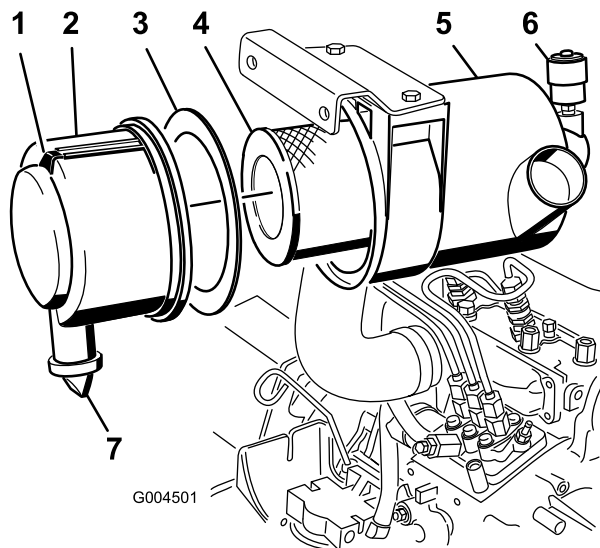

Figure 43
- Service the air cleaner filter when the air cleaner indicator (Figure 43) shows red or every 400 hours (more frequently in extremely dusty or dirty conditions). Do not over service the air filter.
1. Pull the latch outward and rotate the air cleaner cover counter-clockwise (Figure 43).
2. Remove the cover from the air cleaner body (Figure 43).
4. Remove and replace the primary filter (Figure 43).
6. Ensure that the foam gasket is in place in the cover and that it is not torn or damaged (Figure 43). If it is damaged, replace it.
- A. Remove the rubber outlet valve from the cover (Figure 43).
10. Reset the indicator (Figure 43) if showing red.